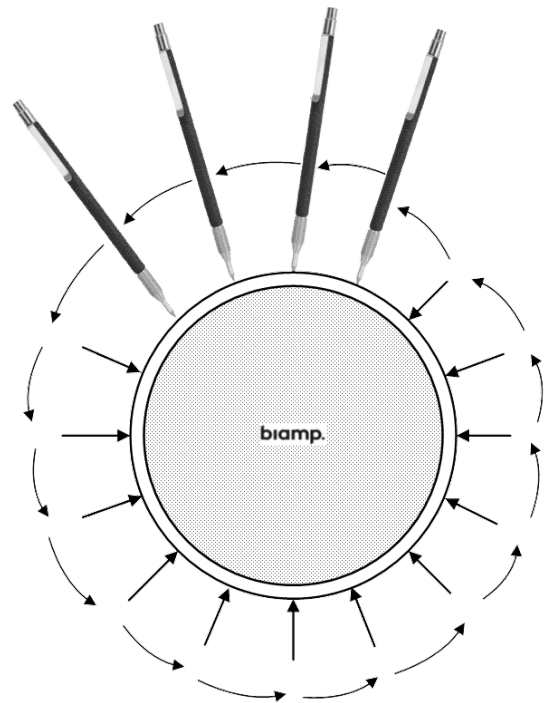

Figure 14. Carefully pry up the grille moving around the outside in small increments
1. Carefully remove the grille. It is tightly fitted to the enclosure. Insert a scribe tool into a hole near the edge of the grille and pry up slightly. Move around the grille in small increments and repeat the process. Do not try to pry it up from one side - it must be moved off evenly or it will bend. (see Figure 14 at right).